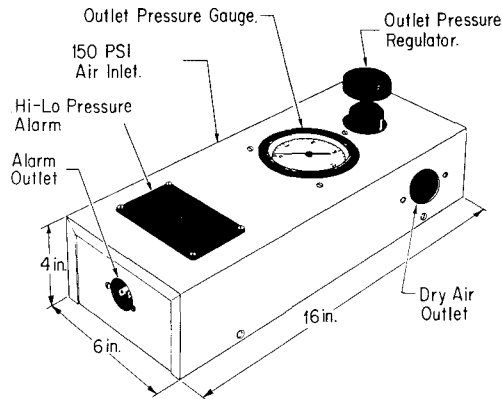

Fig. 1—KS-16648 Dual Pressure Kit
2.01 The KS-16648 dual pressure kit (Fig. 1) consists of a pressure regulator, pressure gauge, and pressure alarm switch all contained in a metal housing.